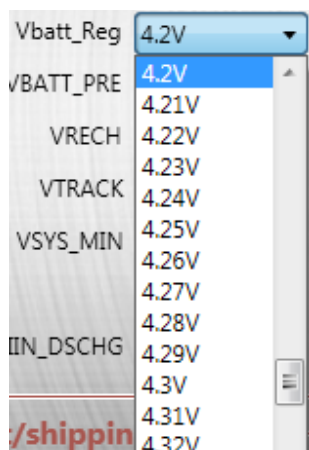

Figure 11: Setting the Charge Full Voltage
- The default value is 4.2V (see Figure 11).